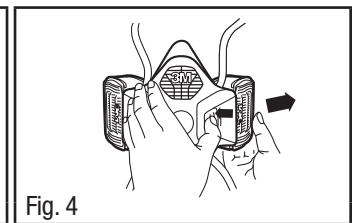

Fig. 4
5. To remove the cartridge/filter depress the blue cartridge/filter release button and simultaneously pull outward on the cartridge/filter (Fig. 4).